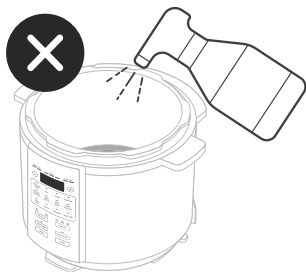

Figure 10.1
- **Do not** spray water inside the cooker. [Figure 10.1]